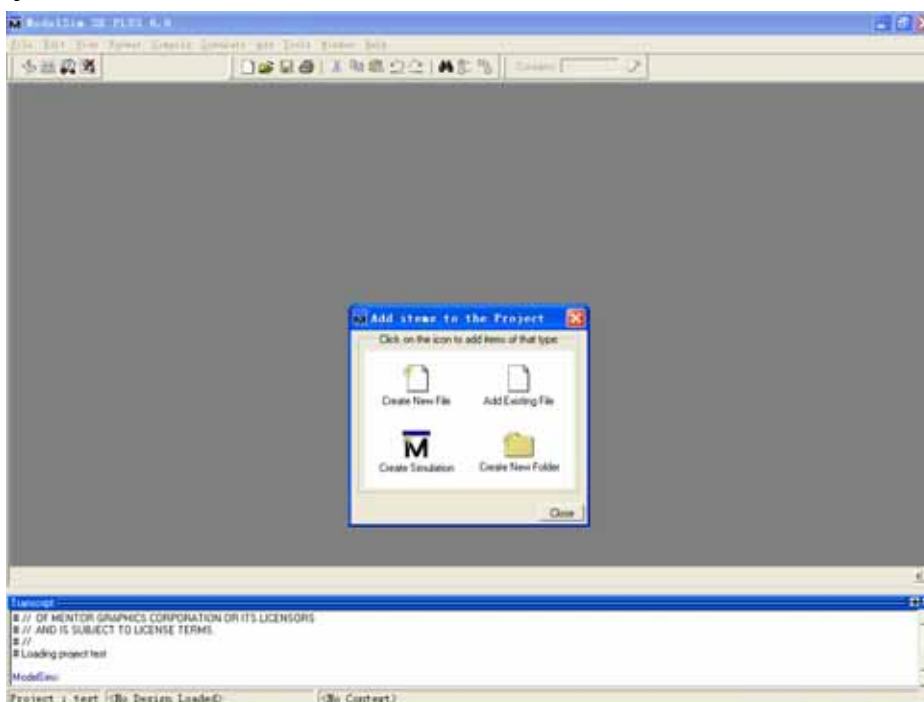

图 3. Add File to the Project 对话框
3. 点击 OK,进入图 3. Add File to the Project 对话框.单击”Add existing file”,弹出 Add file to project 对话框.